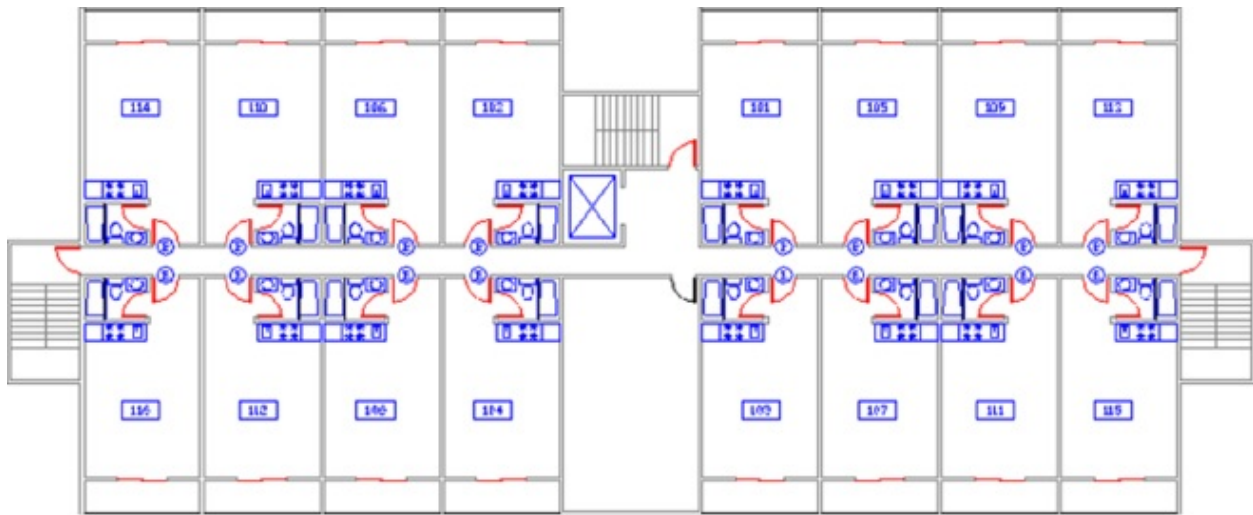

FIGURE 14.2 The overall plan
1. Open the 14a-plan.dwg or 14a-plan-metric file (see Figure 14.2). Select Zoom All from the Navigation bar to center the drawing.